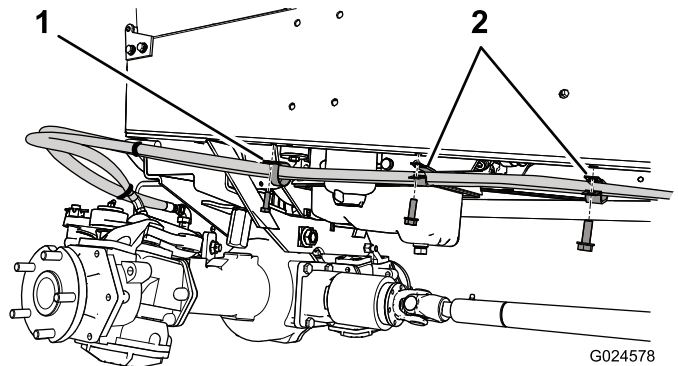

Figure 8
1. Cable tie (2)
- Secure the hoses to the under side of the frame rail with an R-clamp and 5/16 x 1 inch screw (Figure 8). Bend the R-clamp, as required, to prevent the hoses from contacting the rear axle support.
2. Double clamps (2)
- Route and secure the hoses to the frame rail with (2) double clamps and 5/16 x 1 inch screws (Figure 8).